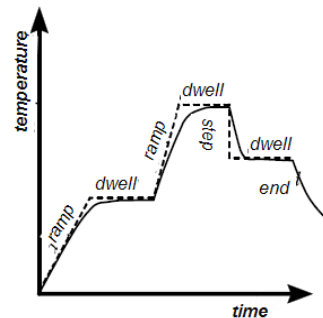

fig 3 - a program
- Alternatively the 2416 Controller may be used as an 8-segment programmer, with each segment being a "Ramp", a "Step", a "Dwell", or "End". The program can be set to cycle if required. See fig. 3.